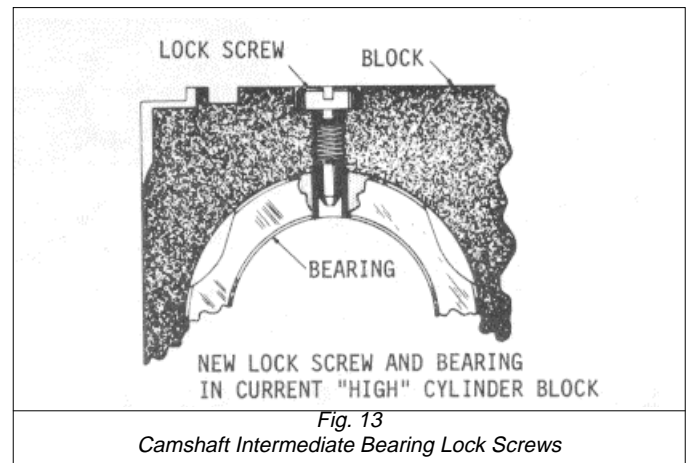

Fig. 13
- (7) Align the holes in the camshaft intermediate bearings with the tapped holes in the top of the cylinder block (Fig. 13). Install and tighten the lock screws to 15-20 ft-lbs (20-27 Nm) torque.
- (8) Reinstall the parts, accessories and assemblies that were removed from the engine as outlined in their respective sections in this manual.
- (9) Refill the cooling system.